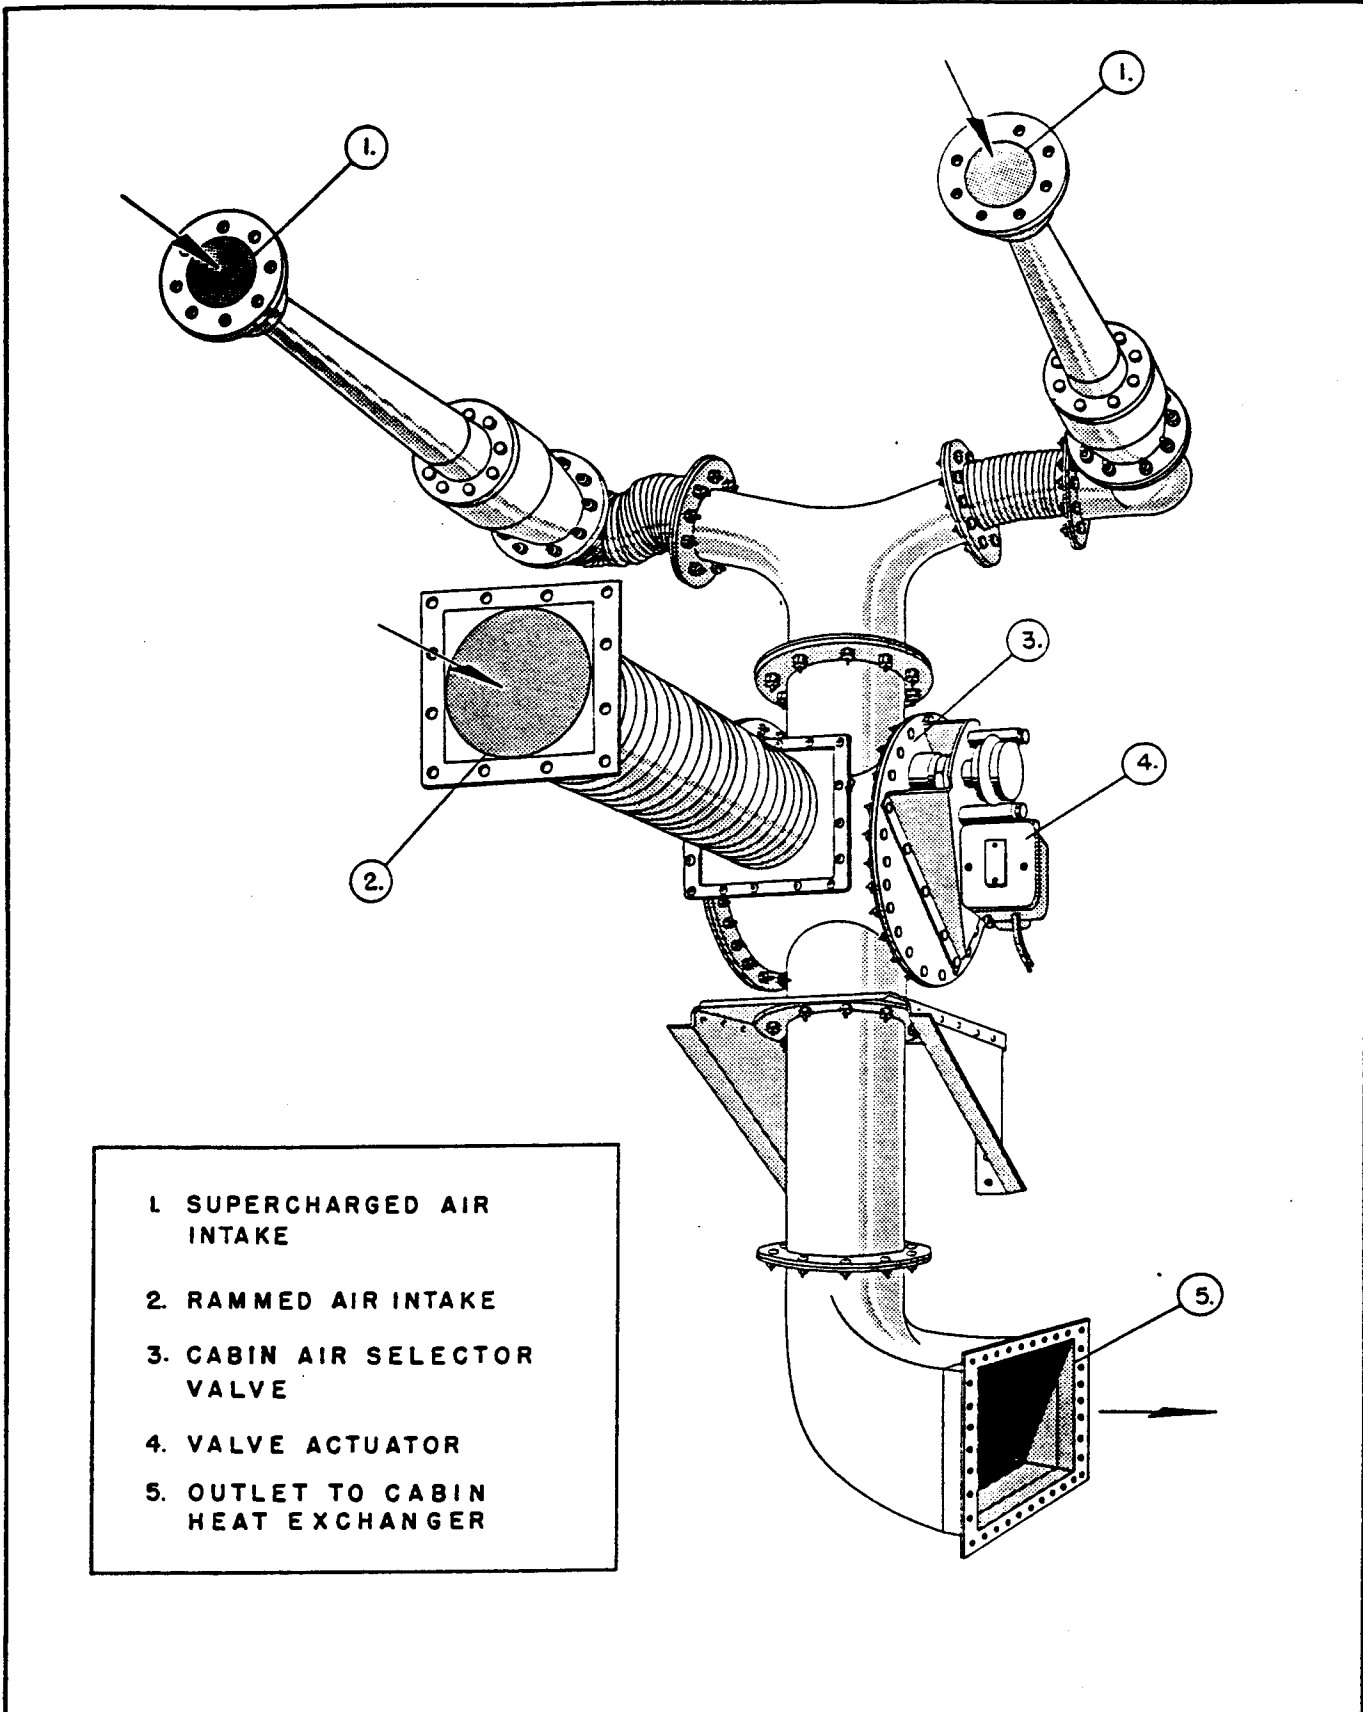

Figure 34. Cabin Air Selector Valve Assembly
(3) CABIN AIR SELECTOR VALVES. (See figure 34.)